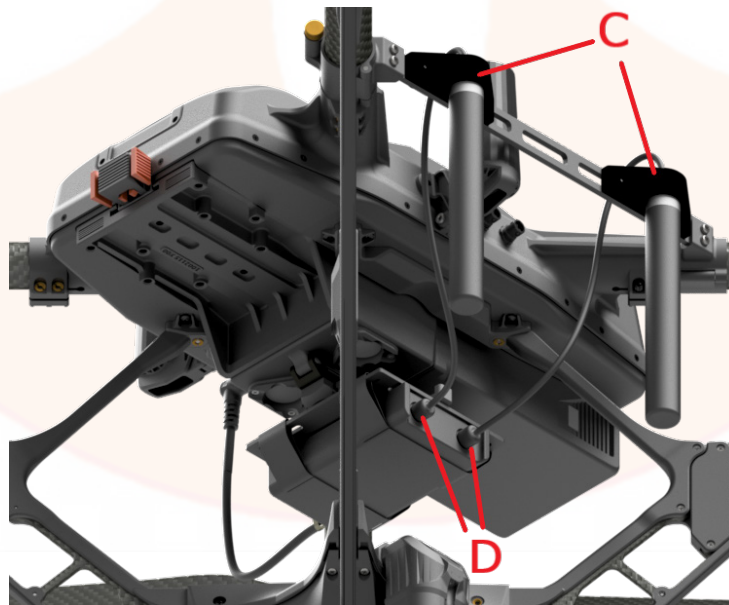

Figure 15: TW-850 Radio Installation 2
4. Install one Antenna Bracket with two Octane Antennas (see Bracket and Antenna installation instructions above) on the left side of the aircraft (**Figure 15, C**).
5. Connect the Octane Antenna cables to the **PS** and **RF** receptacles on the TW-850 radio (**Figure 15, D**).